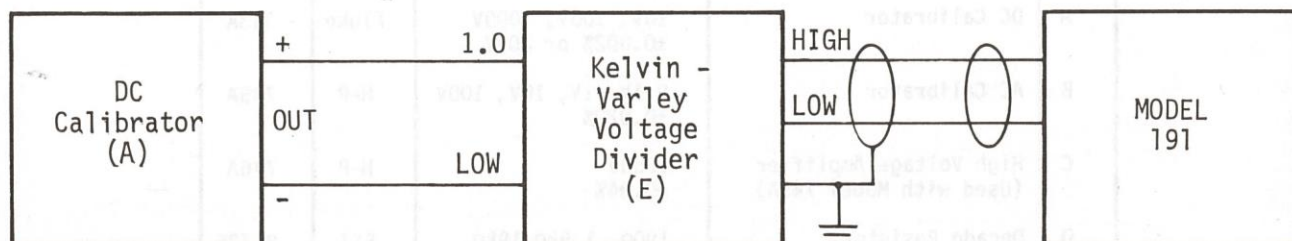

FIGURE 3-1. Test Circuit For 200mV And 2V Accuracy Check.
- Disconnect test leads at the DC calibrator (A) and short them. Depress the Model 191 NULL button. Verify a display indication of 00.000mV ± 0.001 mV flashing.
- c. Connect the DC calibrator (A), Kelvin-Varley Voltage Divider (E) and Model 191 as shown in Figure 3-1. Set the voltage divider (E) for .0190000 output.
- d. Temporarily disconnect the test leads from the DC calibrator (A) and short them. Depress Model 191 NULL button for a display indication of 00.000 ± 0.001 mV flashing.
- e. Reconnect the DC calibrator (A) and set to an output of +10.00000V.
- f. Verify that the Model 191 reading is between +189.978 to +190.022mV. Note that the allowable reading includes a 6 digit allowance for the uncertainty of the DC calibrator (A) and Voltage Divider (E).
- h. Select the 2V range and release the NULL button. Set the Kelvin-Varley Voltage Divider (E) to .190000 output.
- i. Verify that the Model 191 reading is between +1.89981 and +1.90019V. Note that the allowable reading includes ± 4 digits for DC calibrator (A) uncertainty.